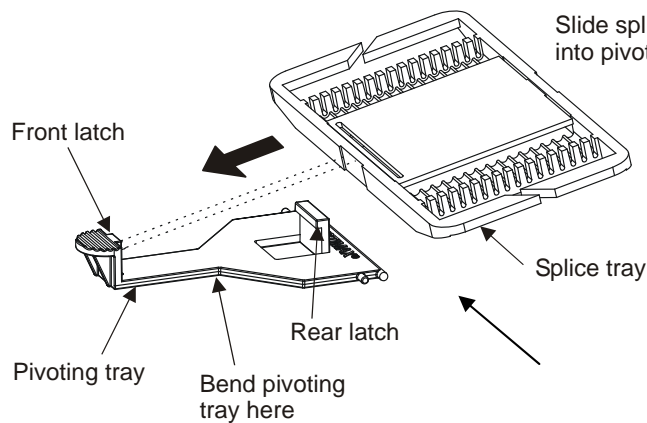

Figure 3. Install Splice Tray
3. Bend pivot tray slightly where indicated (see Figure 3) to allow rear latch to engage splice tray.